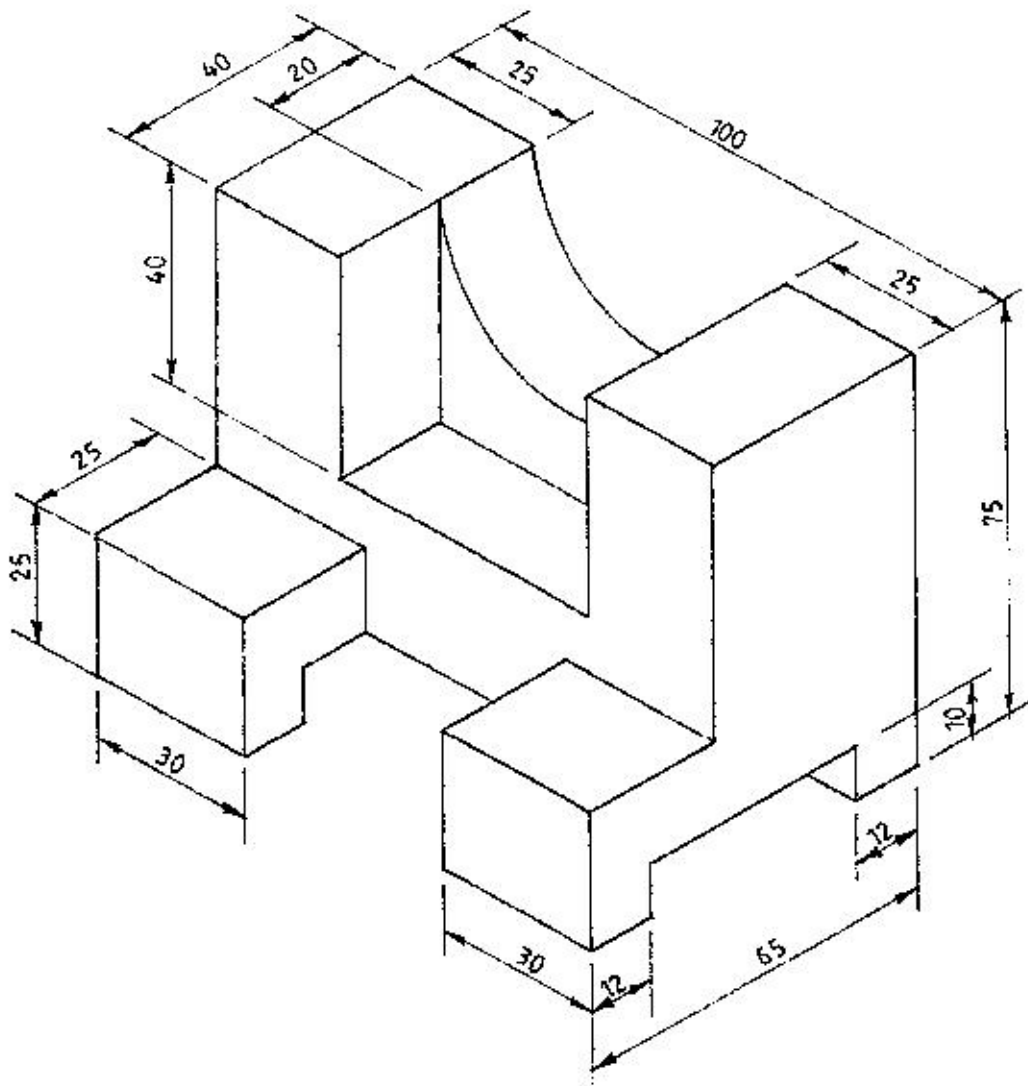

Fig. 5
6. Draw a three dimensional view of figure 5 shown below. Use view ports to extract and label the following elevations in shades of gray visual style in third angle projection.